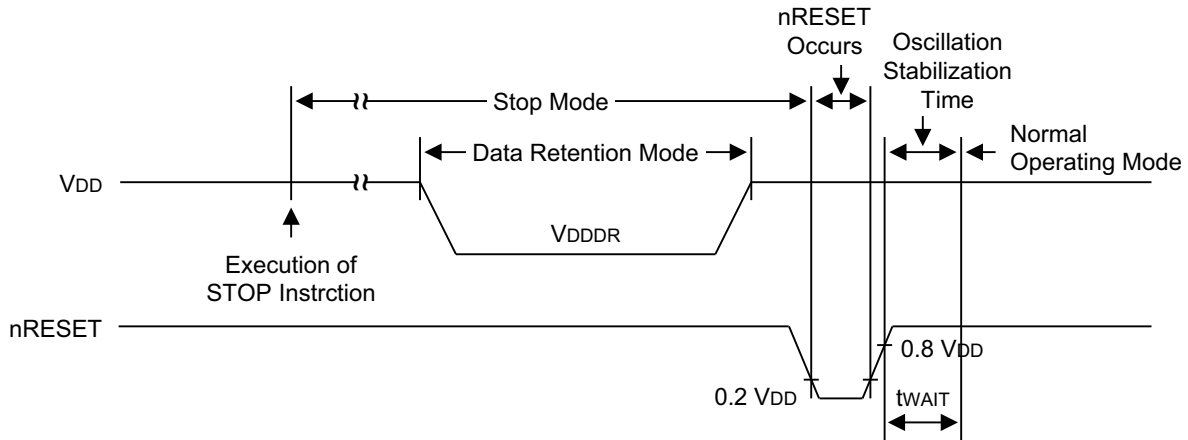

Figure 123. Stop Mode Release Timing Initiated by nRESET
► **Note:** In Figure 123, t_{WAIT} is the same as $4096 \times 16 \times 1 \div f_{XX}$.